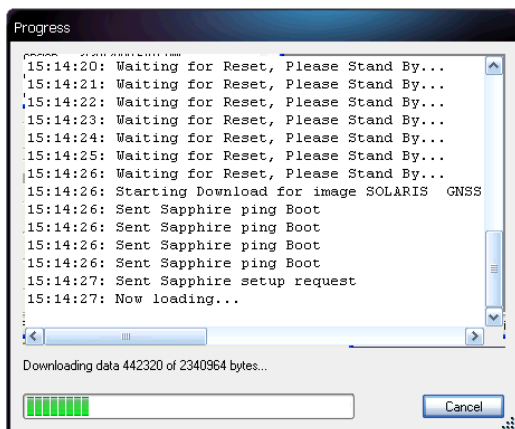

Figure 25: Progress Dialog Box
45. Click . An upload progress window opens (see Figure 25).